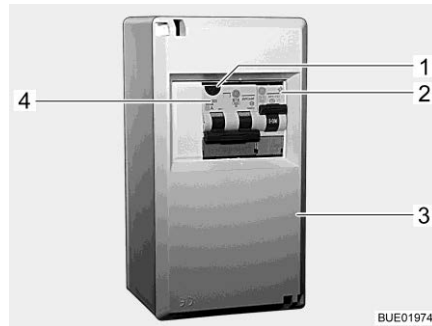

Fig. 149 230 V fuse box
A combined fault current protection switch / safety cut-out (Fig. 149,4) in the fuse box (Fig. 149,3) protects the complete vehicle from fault current (0.03 A).
For vehicles with special equipment (e.g. air conditioning unit) an additional safety cut-out (10 A) (Fig. 149,2) secures the device.
- When the vehicle is connected to the 230 V power supply, press the test button (Fig. 149,1). The fault current protection switch must trip.